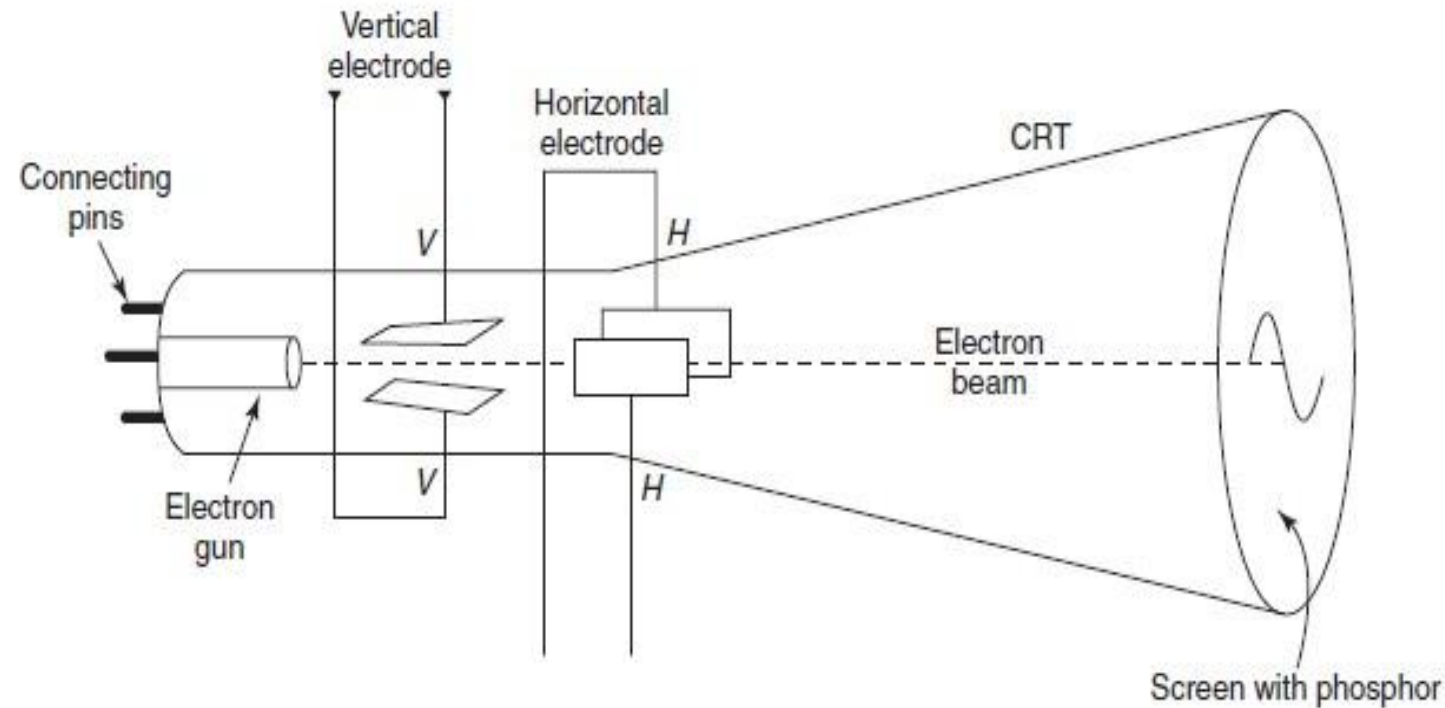

Figure 14-2 Components of a cathode-ray oscilloscope
- The **electron gun or electron emitter, the deflecting system and the fluorescent screen** are the three major components of a general purpose CRT. A detailed diagram of the cathode-ray oscilloscope is given in Fig. 14-2.